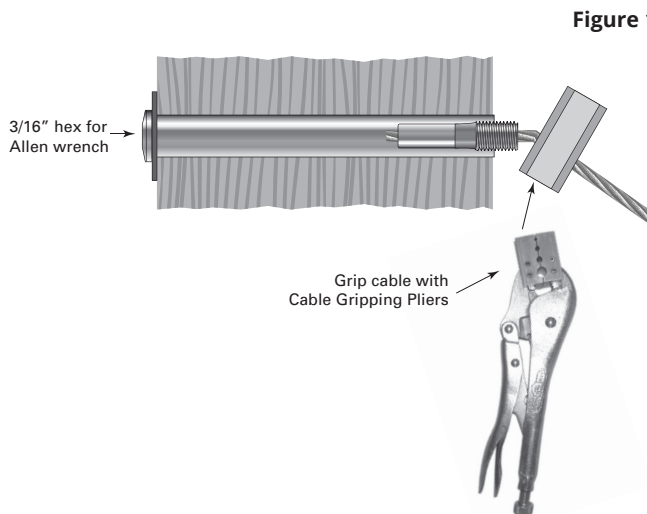

Figure 10
1. Move back to the Receiver and stud end of cable and attach cable gripping pliers to the cable as close as is practical to the fittings without contacting the end post. (Figure 10)